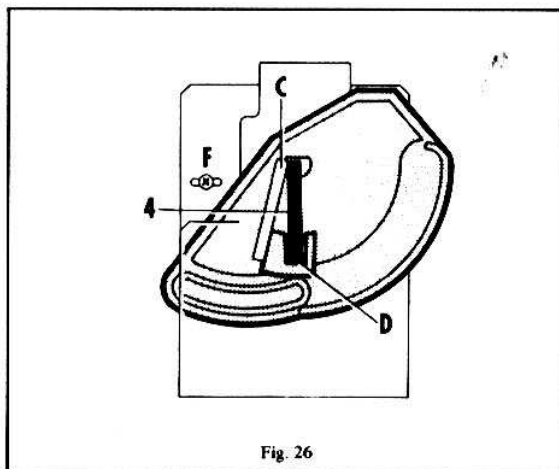

Fig. 26
4. Turn the lever "C" of the gas cock into vertical position "D" (Fig. 26).